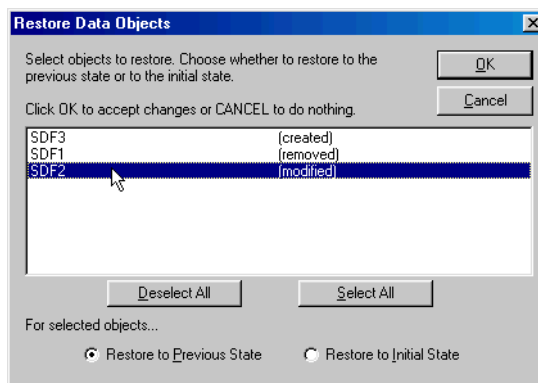

Figure 2.7: The *Restore Data Objects* dialog.
1. Click the **Restore Data Objects** button  on the **Standard** toolbar or choose **Edit ► Restore Data Objects** from the main menu. The **Restore Data Objects** dialog opens, as shown in Figure 2.7.